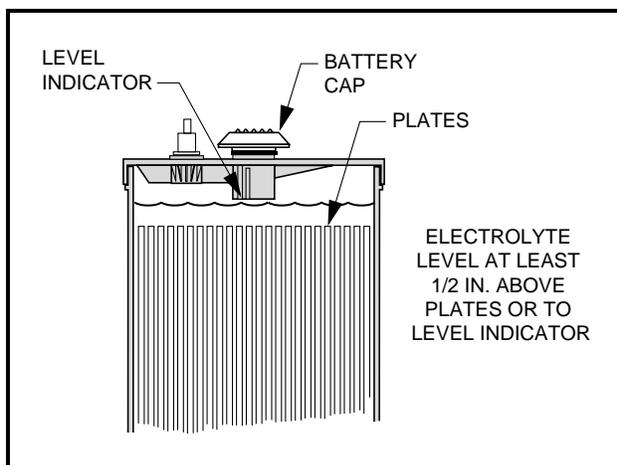

Figure 13-6 Battery Electrolyte Level
3. Maintain proper water level. **See Battery Electrolyte Level, Figure 13-6, Page 13-5.**
The electrolyte level should be checked weekly to be sure electrolyte is at its proper level (**Figure 13-6, Page 13-5**). Never allow the electrolyte level to fall below the tops of the plates because this will cause the exposed part of the plate to become permanently inactive. For best results, use a battery watering gun to add water to batteries. Check the electrolyte level more frequently in hot weather or when batteries are old.